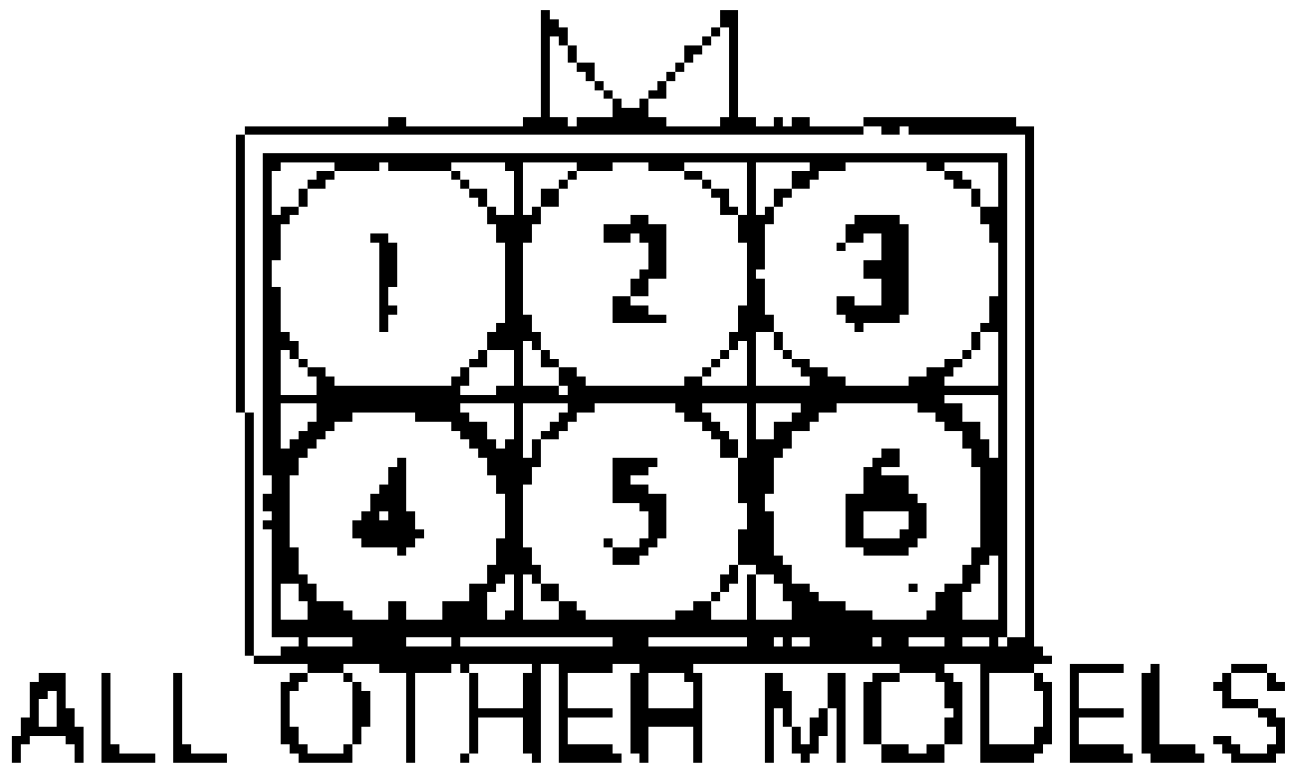

Fig. 1: Airflow Sensor Connector Terminal ID
1) Sensor is incorporated in airflow sensor assembly inside air filter housing. Disconnect airflow sensor connector. See Fig. 1.